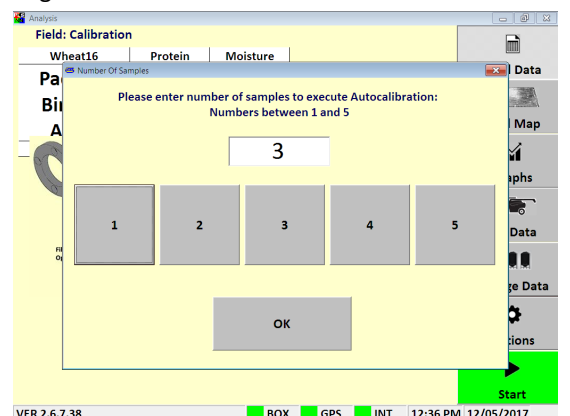

Figure 4.4. Number of samples for Auto-Calibration.
- 4) Enter the number of samples to check (1-5) figure 4.4